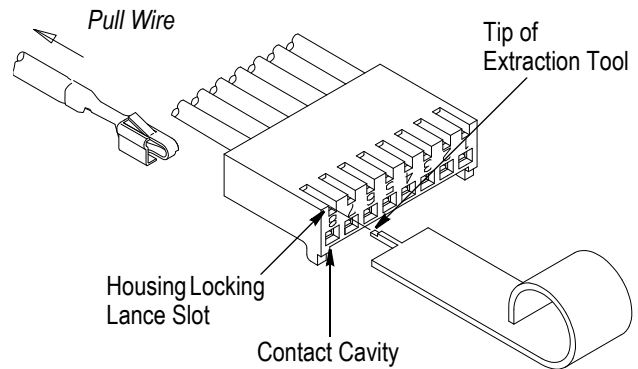

Figure 5
1. Position the tool as shown in Figure 5, and insert the tip straight into the housing locking lance slot of the contact cavity of the contact to be extracted until the tool stop bottoms on the housing.